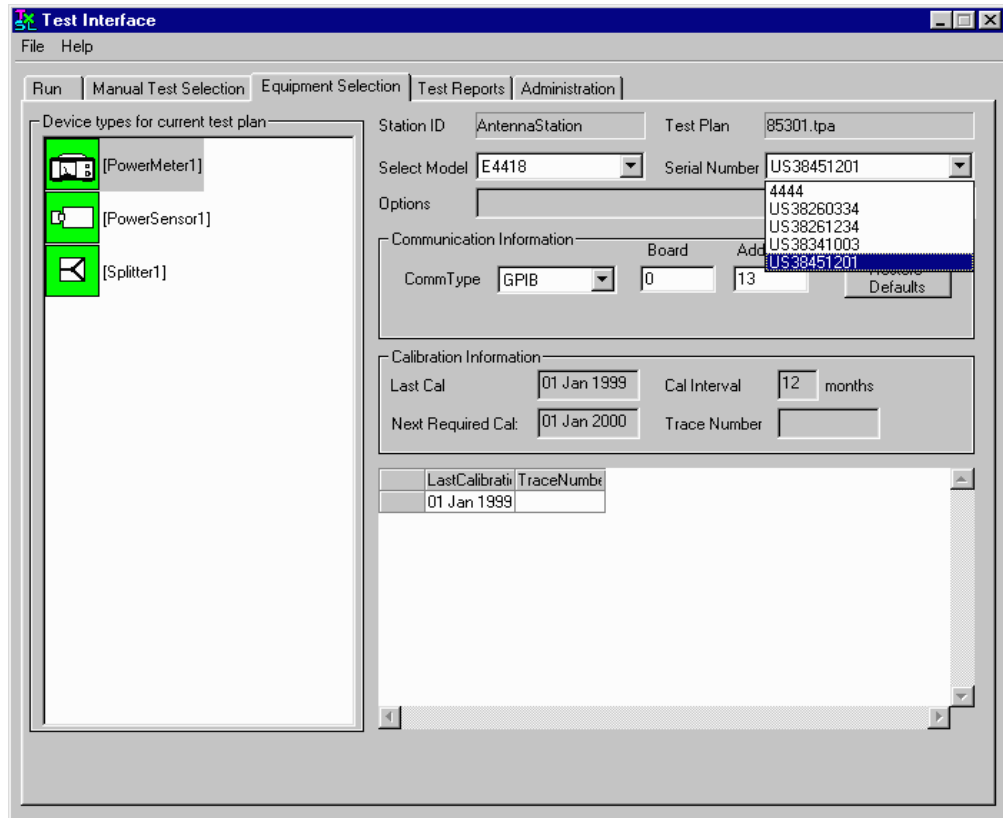

Figure 33 *Equipment Selection Tab*
2. Select the model number and serial number of the new device from the drop-down menus on the right side of the **Equipment Selection** window. See Figure 33.